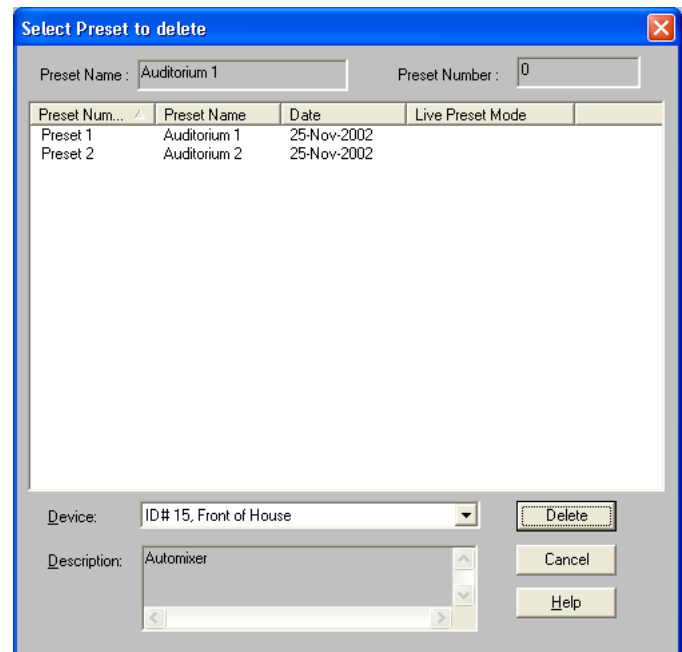

FIGURE 4-4: “Select Preset to delete” Dialog
4. The “Select Preset to delete” dialog will appear, as pictured in Figure 4-4.